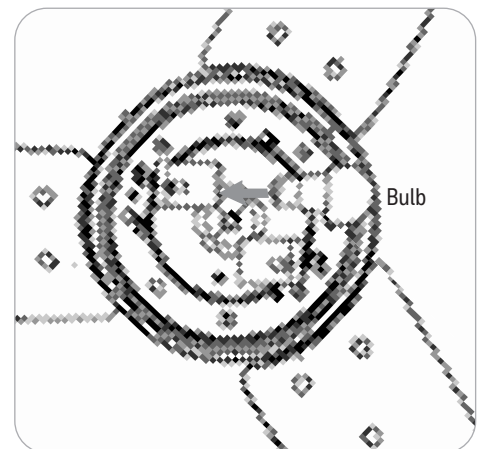

Figure 6.6
6. Install the two E26-base LED bulbs (Figure 6.6).